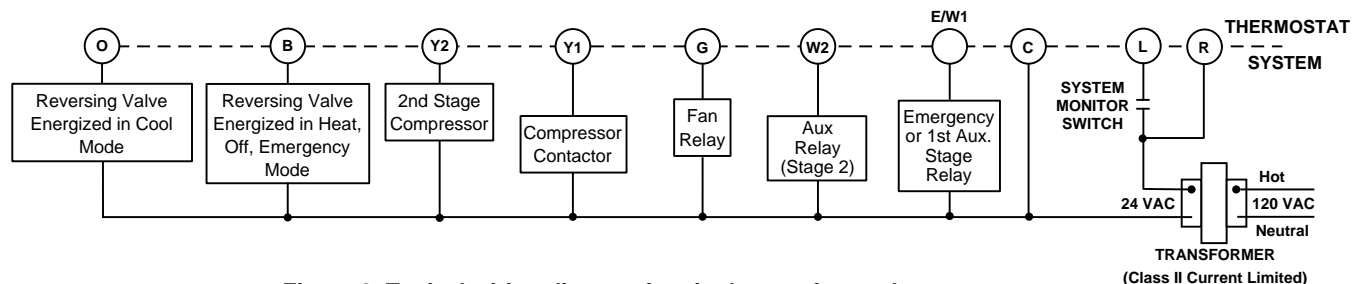

Figure 2. Typical wiring diagram for single transformer heat pump systems
2. Connect wires beneath terminal screws on base using appropriate wiring schematic (see figs. 2 through 4).